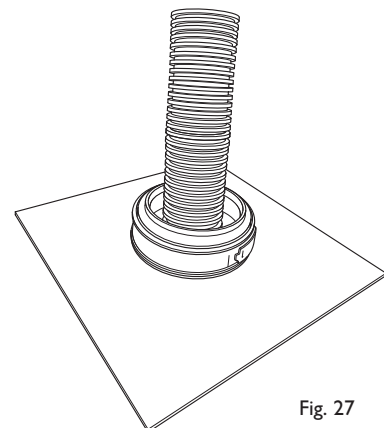

Fig. 27
16. In a similar way to fitting the boiler adaptor fit the air duct clamp to the air duct. This will prevent the duct falling back into the chimney (Fig. 27).